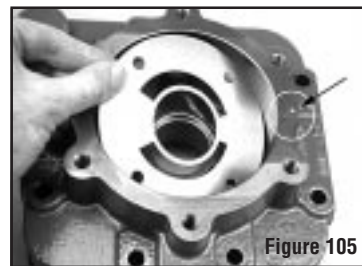

Figure 105
For pumps with clockwise input rotation, the wide side of the kidney slot must be on the (A) side of the pump end cover. Please note the (A) and (B) Stamped on the end cover, right next to the high pressure ports. For counterclockwise input rotation, the wide side of the kidney slot must be on the (B) side of the pump end cover. (see Figure 105)